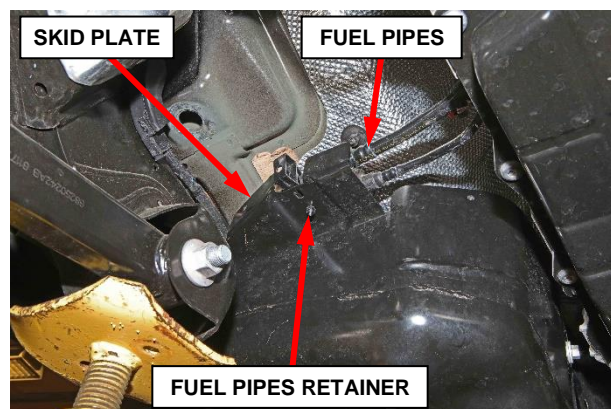

Figure 3 – Fuel Pipes Retainer
3. Release the fuel pipe retainer from the fuel tank front skid plate (Figure 3).
7. Install the fuel pipe retainer to the fuel tank front skid plate (Figure 3).
5. Install the fuel pipe retainer to the fuel tank front skid plate (Figure 3).